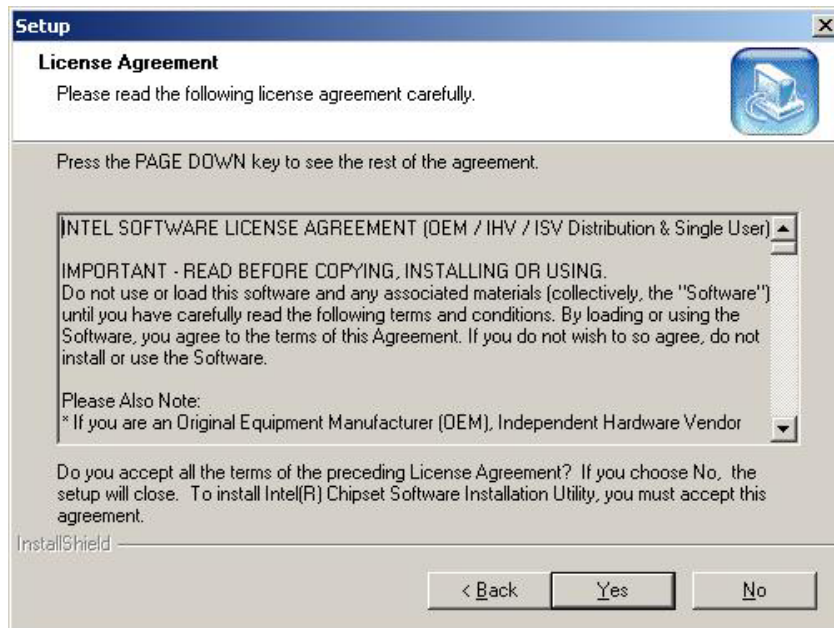

Figure 6-3: License Agreement
Step 4: Click “**Next**” and the license agreement shown in **Figure 6-3** appears.